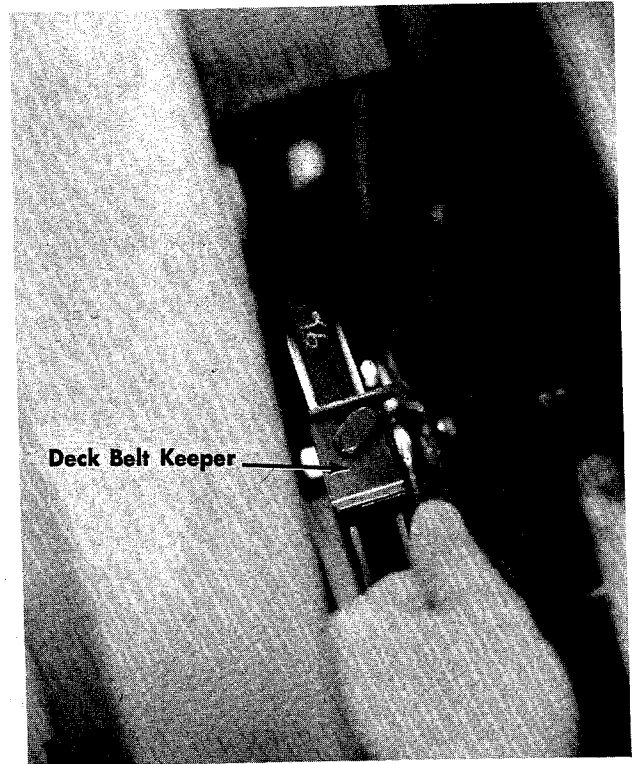

FIGURE 19. REMOVAL OF DECK BELT KEEPERS
- Step 3. Remove two belt keepers at the deck pulley and shoulder bolt. See figures 19 and 20.